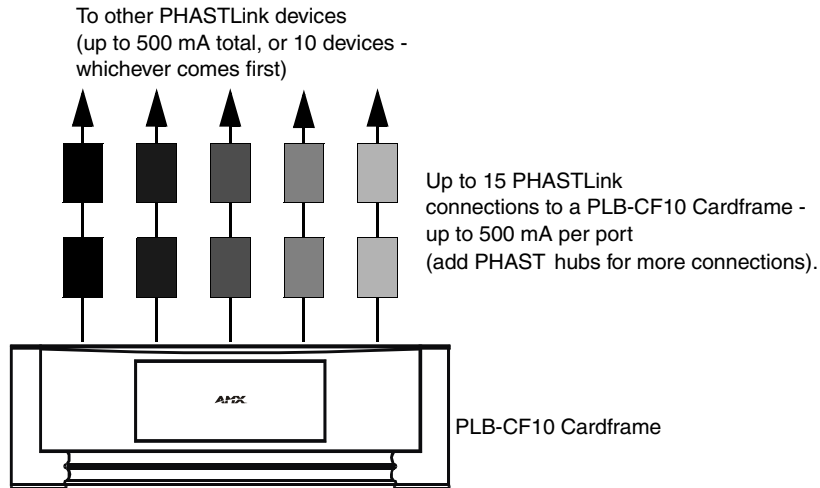

FIG. 4 500 mA or 10 devices (whichever comes first) max per port.
- The limit for each home run is 500 mA or 10 PHASTLink devices, whichever comes first (FIG. 4). Extra hubs can be added to provide additional ports.